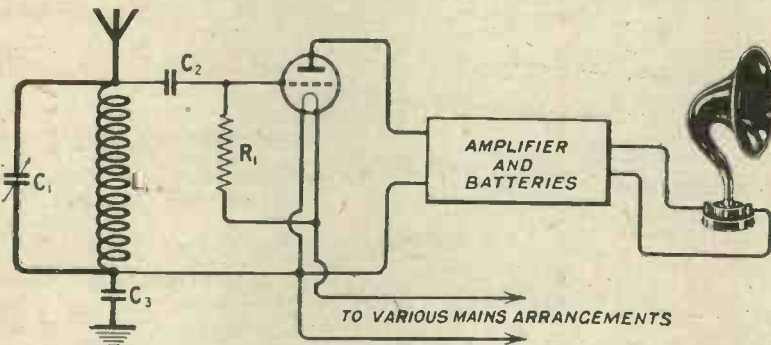
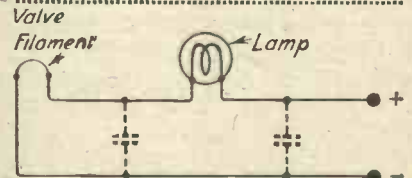

Fig. 2.—In the circuit used by Capt. Round for his initial experiments only the detector valve filament was run from the mains.
Fig. 3.—A filament smoothing arrangement which was sometimes noisy.
L.T. and H.T. batteries, as shown diagrammatically in Fig. 2. The H.T. on the first valve was also a battery. The arrangement enabled me to study carefully what happened in the simplest case. With the mains mentioned above, and using the arrangement of Fig. 3, the noise at five miles from 2LO was annoying in weak passages and during intervals.
and, incidentally, I found that a condenser did not make much difference when put across either the mains or the filament, as shown dotted in Fig. 3.